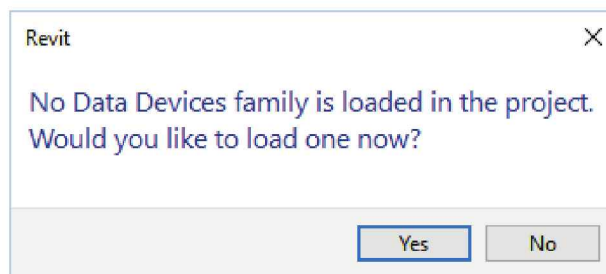

FIGURE 14-5.1 Prompt to load content
7. Click **Yes** to load a *Data Device* family (Figure 14-5.1).